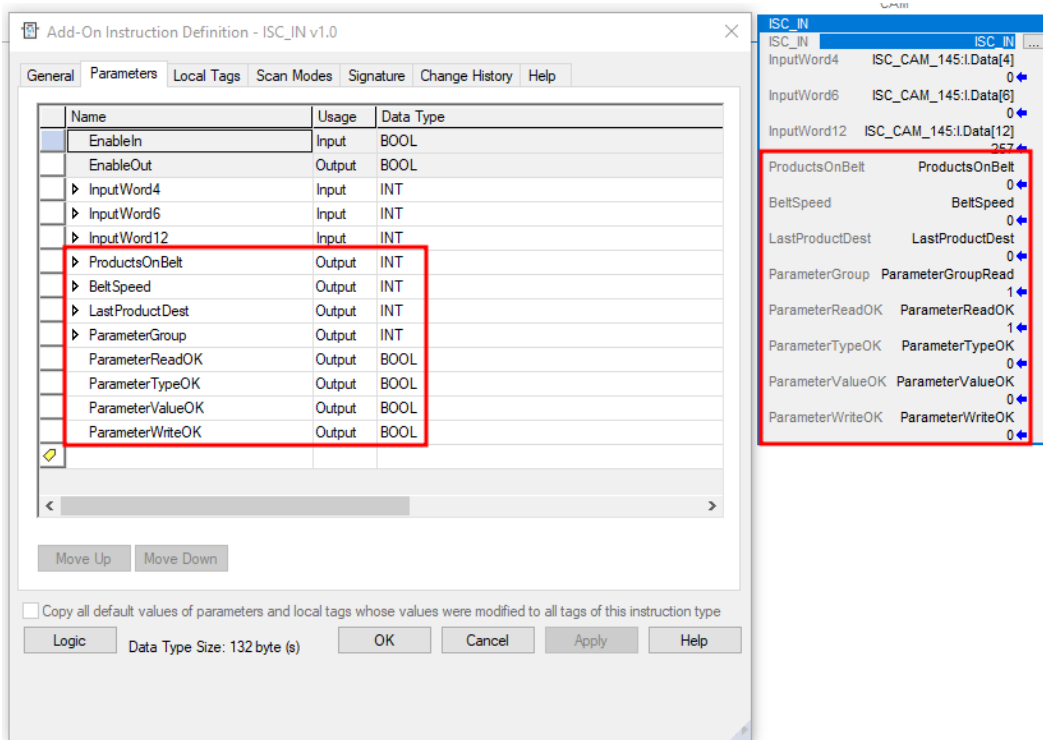

Figure 37: Output Data Types for ISC_In AOI
23. Add the ISC CAM Module inputs words which correspond to the AOI, Figure 37.
24. Create unique data types for the next four AOI output items of size INT, Figure 37. Already created UDTs could be used for this step.
25. Create unique data types for the next four AOI output items of size BOOL, Figure 37. Already created UDTs could be used for this step.